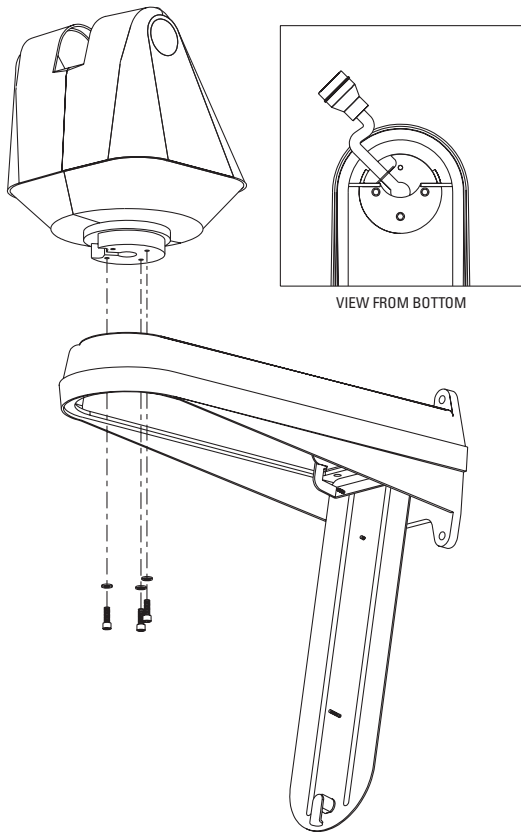

Figure 1. Pan/Tilt Mounting
2. Place the pan/tilt on the mount, without the enclosure being attached to the pan/tilt. Be sure the factory-installed gasket is on the bottom of the pan/tilt spindle for protection (refer to Figure 1).
3. Secure the pan/tilt to the mount using three 1/4-20 x 5/8-inch cap screws supplied with the mount (refer to Figure 1). Be sure to apply some form of thread locker (for example, Loctite®) to the screws. Use a 3/16-inch Allen wrench to tighten the screws.